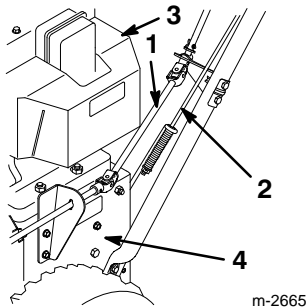

Figure 4
IMPORTANT: Ensure that the chute control rod assembly is between the engine and the traction rod (Fig. 4).
- Position the left handle against the side of the snowthrower and align the handle mount holes with holes in the side plate (Fig. 4).